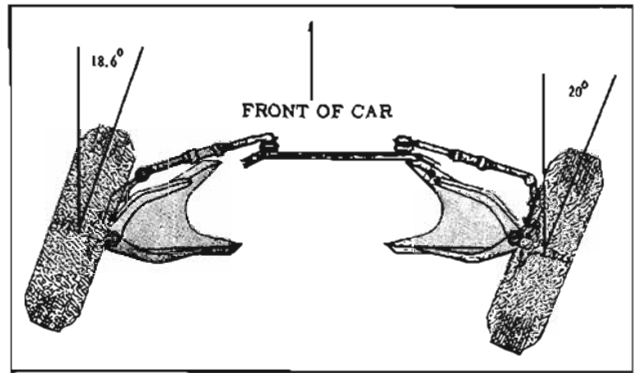

Fig. 9-131 Front Wheel Toe-Out
4. TOE-OUT (STEERING GEOMETRY) (Fig. 9-131)
TOE-OUT (STEERING GEOMETRY) (Fig. 9-131)